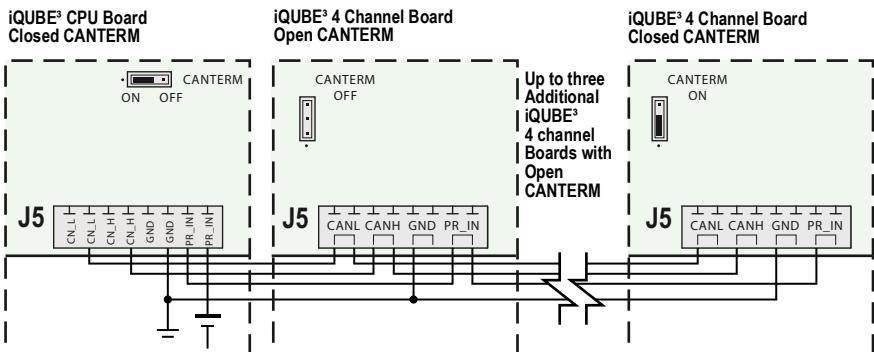

Figure 5. J5 CANBUS Wiring
- Wire J5 connectors in parallel from the iQUBE³ CPU board J5 to the J5 connector of each 4 channel iQUBE³ board. Figure 5 displays an example for wiring multiple iQUBE³ boards.